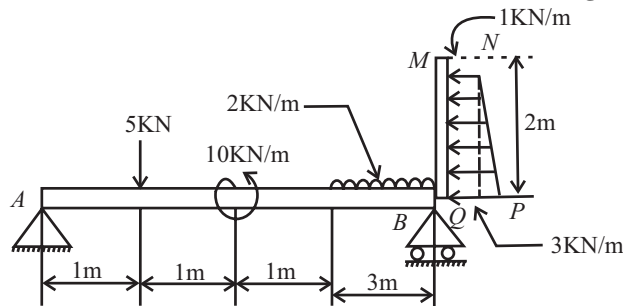

Fig 8.44
Q. 19: Find the support reaction at A and B in the beam as shown in fig 8.44.